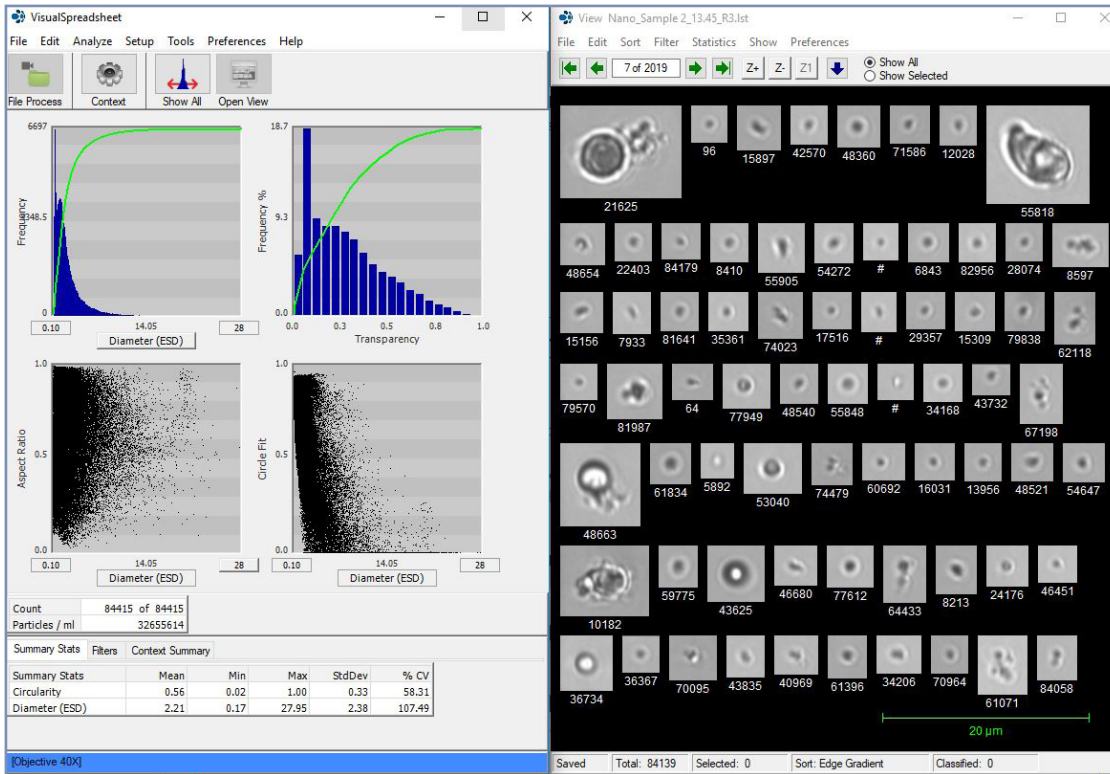

Fig. 3. Produced water imaged and analyzed by the FlowCam Nano using Nano-Flow Imaging
- Images particles as small as 300nm (Fig. 3)